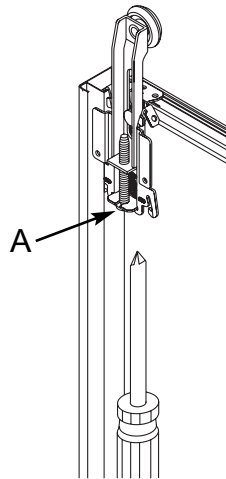

FIGURE 4
Use Phillips screwdriver for vertical adjustment at (A), plumbing left door to left jamb, right door to right jamb (Figure 4). (Screw is self-locking in any position.)